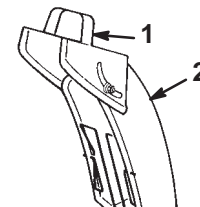

**Figure 15**
- **Fuel Shutoff Valve** (Fig. 15)—Close the valve by rotating it clockwise. Open the valve by rotating it counterclockwise. Close the valve when you do not use the snowthrower.
4. Open the fuel shutoff valve below the fuel tank (Fig. 15).
6. Close the fuel shutoff valve (Fig. 15).